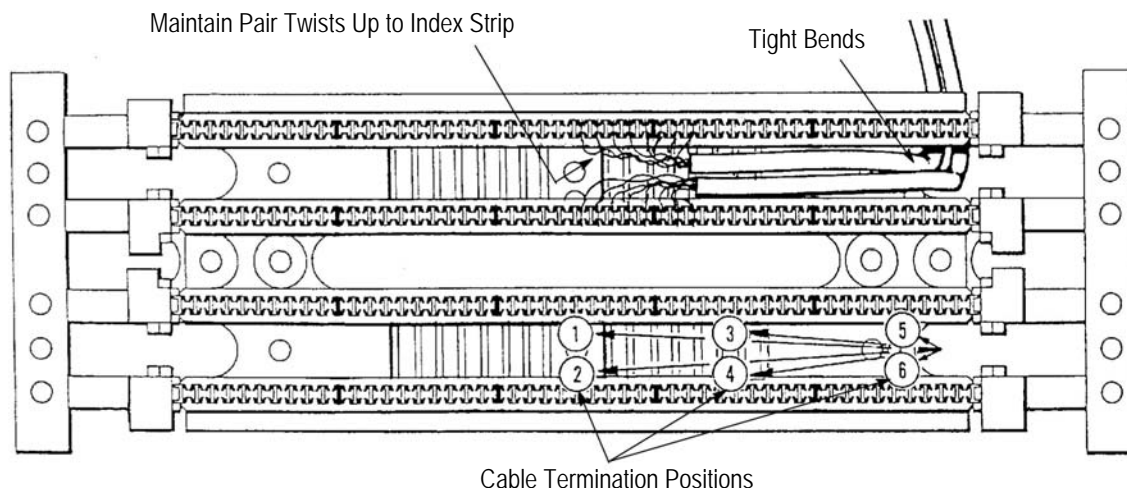

Figure 5
4. Following the sequence shown in Figure 5, route each cable around end of wiring block and into the channel between the index strips. Cut cable to appropriate length and strip back only enough cable jacket to allow lacing of pairs.